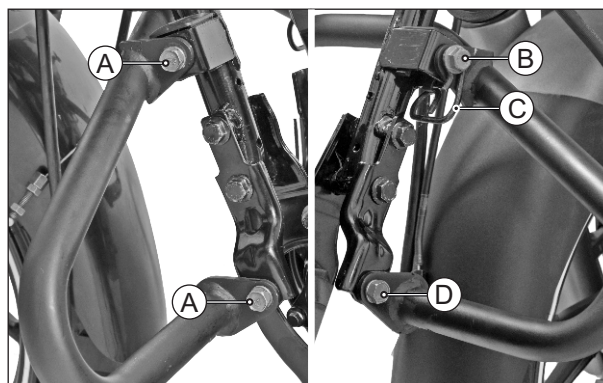

Fig. 3.134
- Remove the hexagonal flange bolt (A) (M8x25 - 2 nos.) along with spring washer from LH side top and bottom mounting of crash guard. (Fig. 3.134)
- Remove the hexagonal flange bolt (B) (M8x25 - 1 no.) along with spring washer from RH side top mounting of crash guard and dislocate the cable guide (C). (Fig. 3.134)
- Remove the hexagonal flange bolt (D) (M8x25 - 1 no.) along with spring washer from RH side bottom mounting of crash guard and take out the crash guard. (Fig. 3.134)